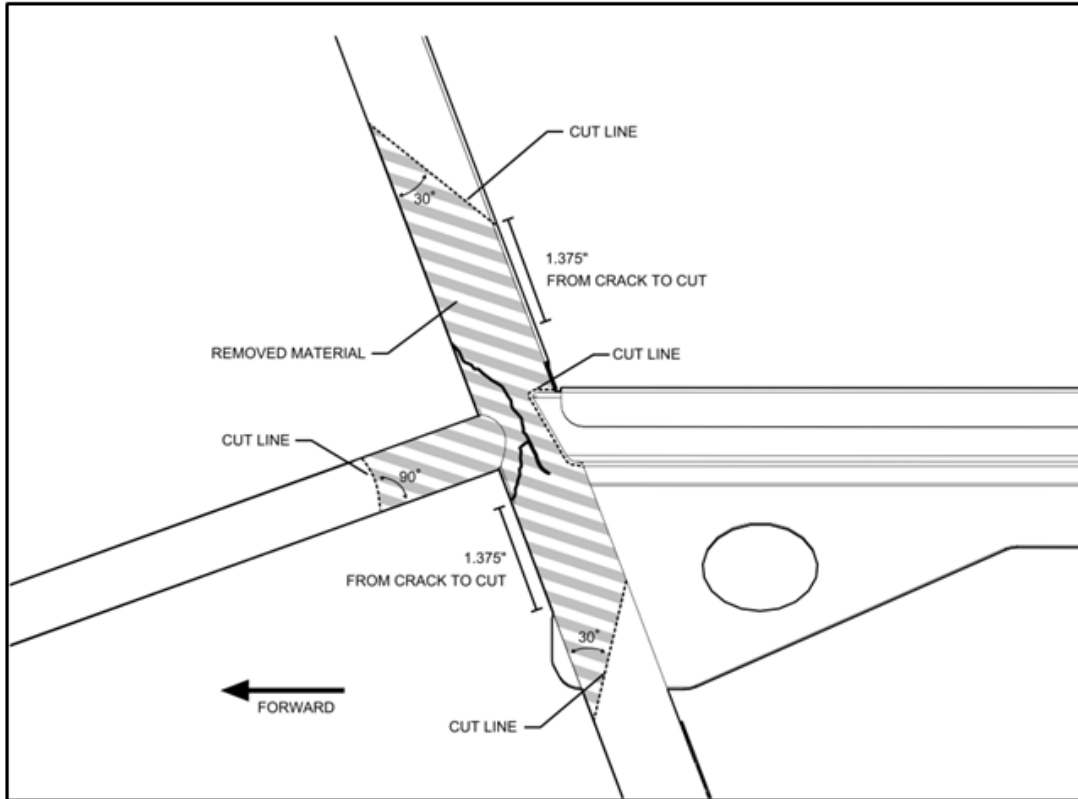

Figure 2 – Junction Removal, View Looking Right
5. Cut out the broken junction per AC43.13 See Figure 2 (distances are minimum values)